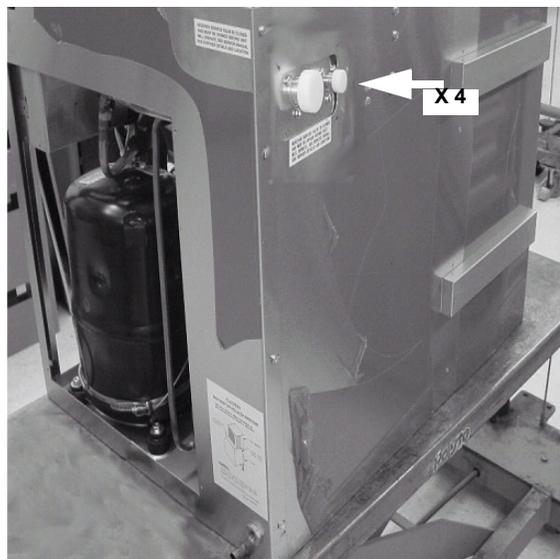

Figure 39.
50. Place the back panel in the unit. Attach the Aeroquip bracket with 4 hex head screws (Figure 39).
51. Place the right side panel / brace / electrical box assembly (Figure 39).